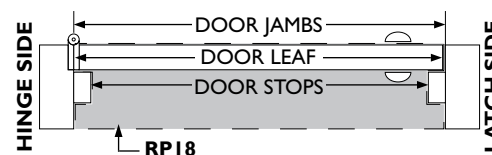

FIG.2
STEP 2 Drill and countersink threshold plate to suit 8 gauge x 50mm CSK screws **(not supplied)**. **For fabricator:** Drill holes in door jamb to locate with screw holes provided in RP18. **(FIG.2)**